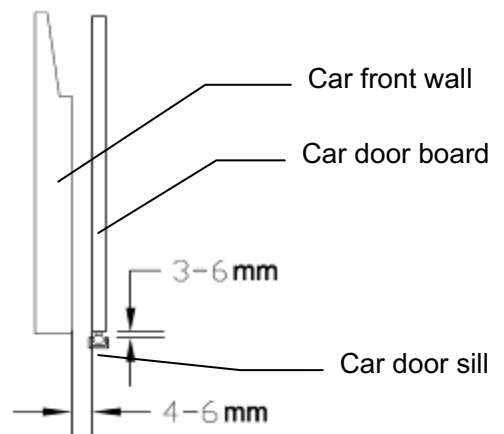

Figure 2-14 Side view of the car door configuration
2. The clearance between the car door leaf bottom and the sill surface is 3 to 6 mm, and the clearance between the car door leaf and the front wall of the car is 4 to 6 mm (the clearances of both sides differ by less than 1 mm); See Figure 2-14 side view of the car door configuration.